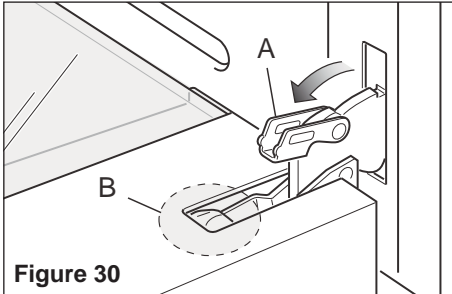

Figure 30
- Open the lever "A" completely on the left and right hinges (fig. 30).
- Gently close the door until left and right hinge levers "A" are hooked to part "B" of the door (figs. 30, 31).